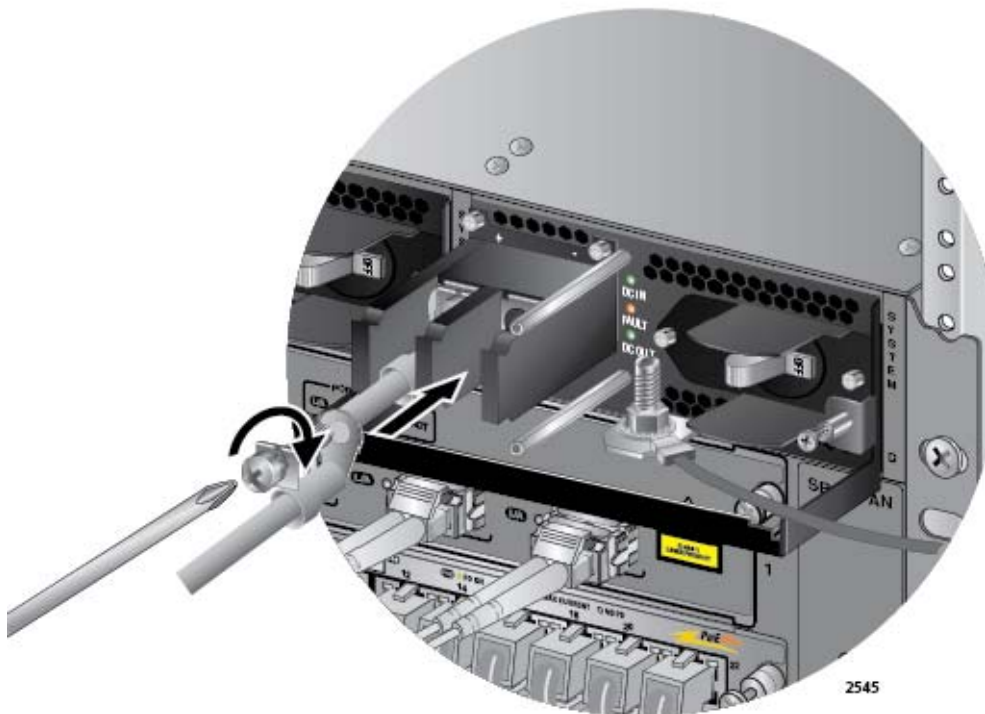

Figure 147. Connecting the Negative (-) Power Wire with a Right Angle Terminal
7. With a #3 Phillips-head screwdriver, connect the negative (-) power lead wire to the negative terminal on the power supply, with the remaining terminal screw removed in step 5. The negative terminal is on the right. Refer to Figure 147 on page 212.